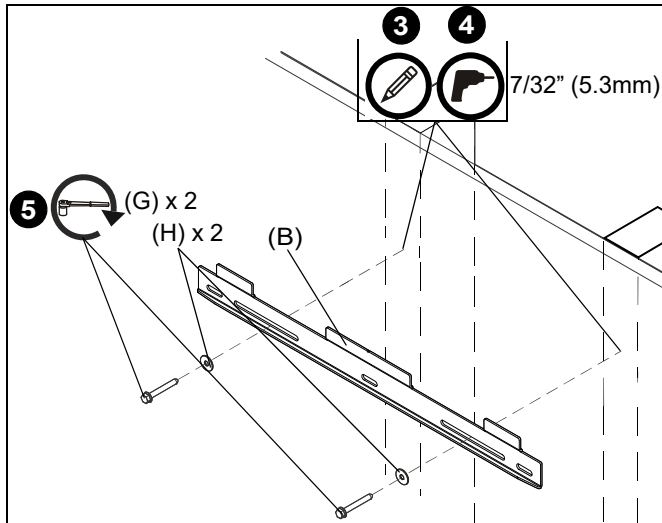

Figure 1
2. Place top bracket (B) against wall at desired mounting location 10 1/8" above the desired center of the screen. Use a level to ensure a level mount. (See Figure 1)
3. Mark hole locations at each mounting location in the center of each stud. (See Figure 1)
4. Drill two 7/32" holes at marked hole locations. (See Figure 1)
5. Install two 5/16 x 2 1/2" hex head cap screws (G) through two 5/16" washers (H), holes on top bracket and into drilled holes on wall. (See Figure 1)
1. Place top bracket (B) against wall at desired mounting location 10 1/8" above the desired center of the screen. Use a level to ensure a level mount. (See Figure 1)